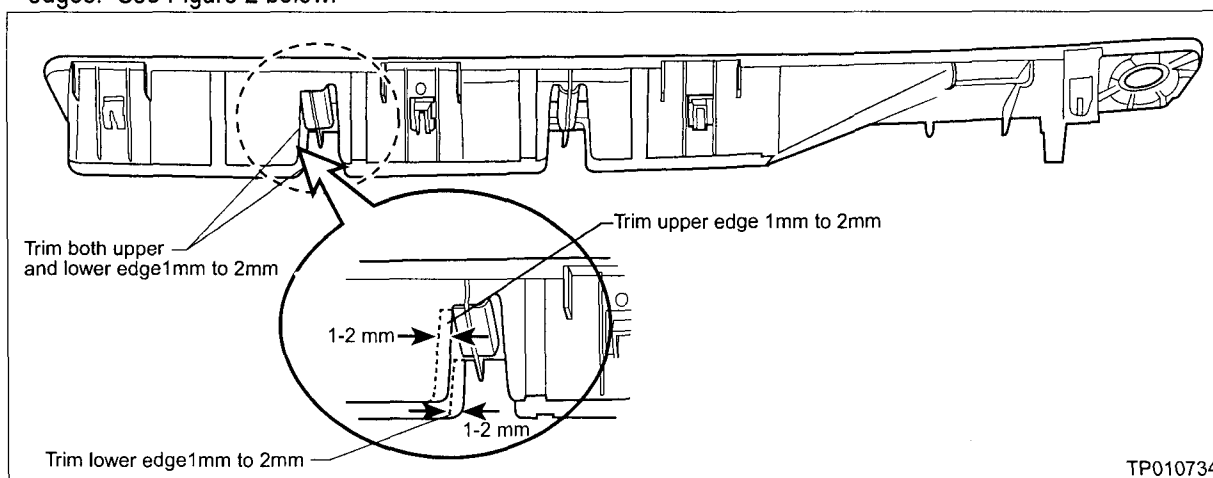

Figure 2-Bottom View
4. Turn the defroster over and trim the edges of the vent at 2 locations shown. Trim 1mm to 2mm from the edges. See Figure 2 below.